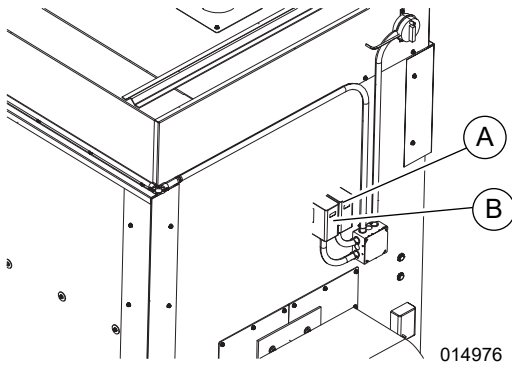

Figure 3-2. Output Temperature Sensor
NOTE: See Figure 3-2. The thermostat on the right is the adjustable thermostat (A). Which the end user is able set to their desired output. The thermostat on the left is the high output thermostat (B).